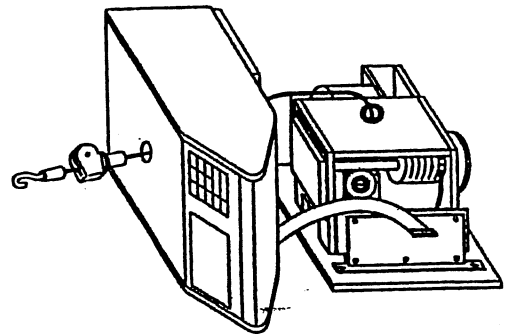

Figure 5
Step 7. Lay the cover on its side by the mechanism. (See Fig.5)